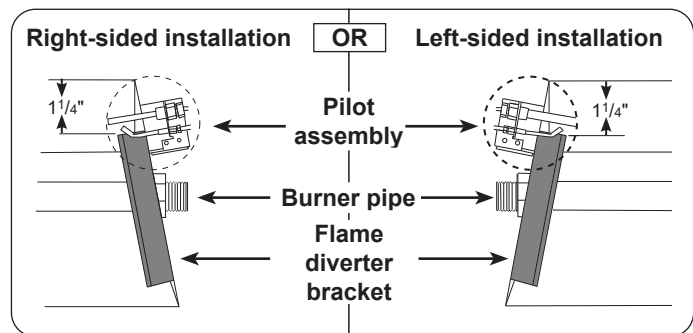

Fig. 4-2 Right-sided / left-sided setup
1. Make sure the fuel injector/air mixer and burner cap are reversed so the fuel injector/air mixer is on the left side of the burner and the cap is on the right (see Fig. 4-2).
1. Place flame diverter bracket over the side edge of the burner pan where the safety control system pilot bracket will be attached. It should be placed **approximately 1 1/4"** from the back of burner pan. See Fig. 4-2 & 4-3.